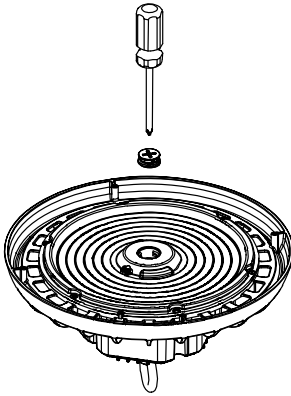

FIGURE 12
1. Use a screwdriver to remove the 1/2 plug from the sensor (Figure 12).